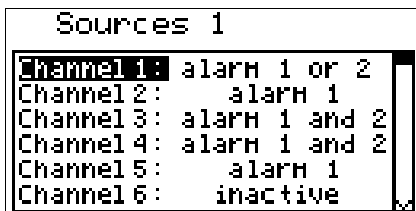

Fig. 7.24. Submenu "Source" in menu „Outputs settings”.
- "Source" - brings up a submenu with alarm sources settings (Fig. 7.24). The following options are available for each channel: